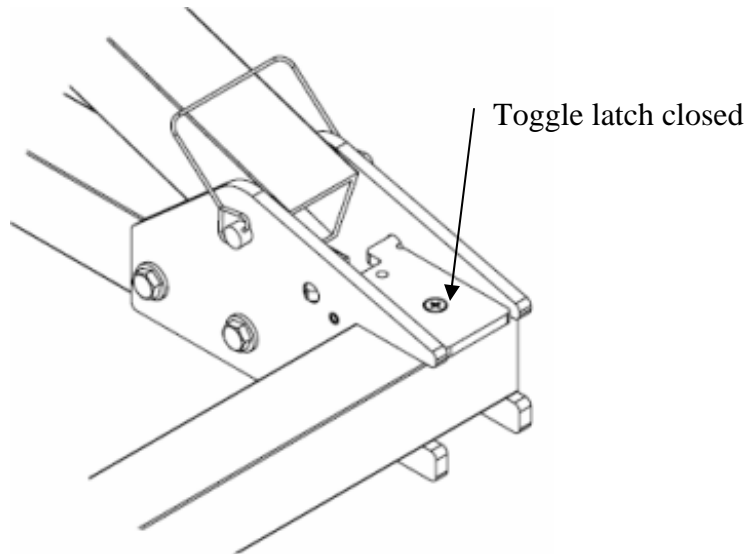

Figure 5 - Front bar toggle latch down position
4. Flip the toggle latch to the down position to hold the front bar in place. The stub on the latch **MUST BE** located into the hole on the top side of the front bar for proper operation. **Fig 5**